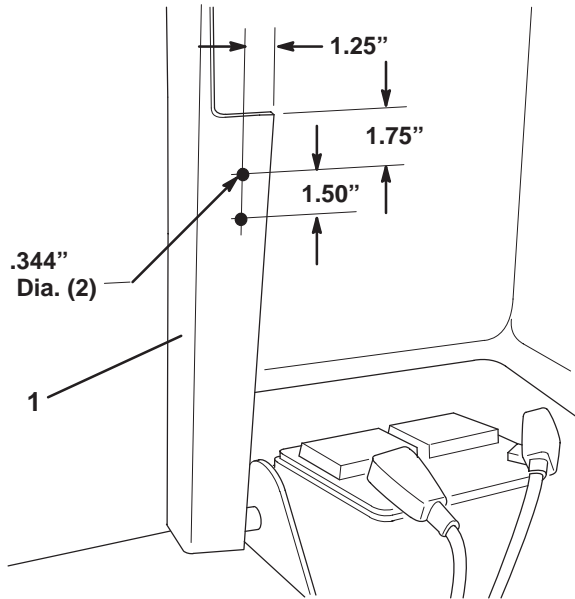

Figure 15
- Using dimensions shown in figure 15, locate, mark and drill (2) .344" dia. holes in lip on right side of hood.